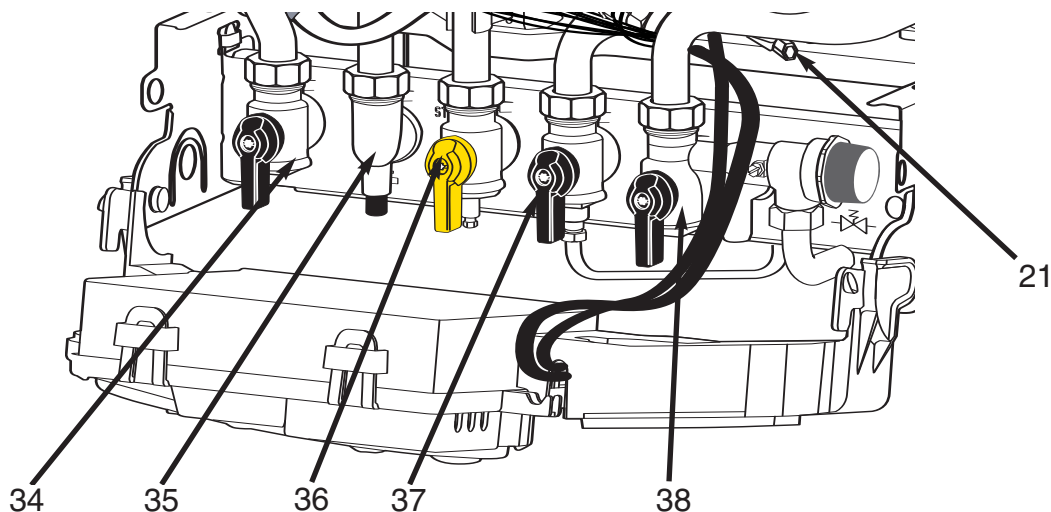

Fig. 2
- 2) Turn the gas tap **36** (fig.2) OFF.